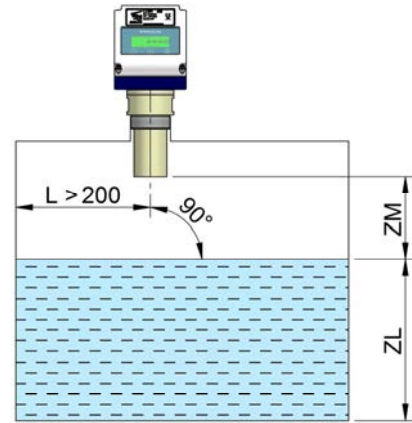

Fig. 1
The minimum distance with respect to the tank wall must be at least 200 mm, avoiding the sensor to be centred in the tank, especially in cases with agitators or formation of emptying cones (Fig. 1).
The dead zone (ZM) is a zone close to the transducer, where the instrument is unable to make any measurement (Fig. 1).